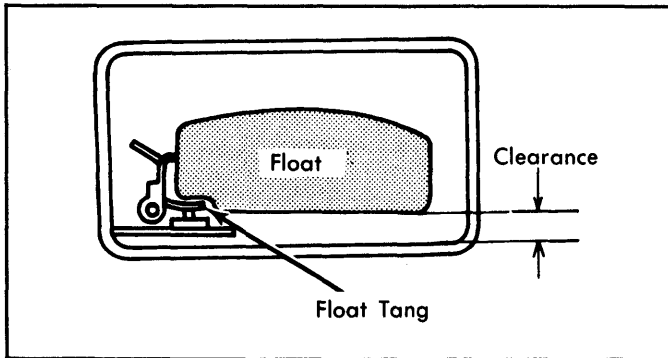

Fig. 4: Float Level Adjustment
2) Invert carburetor on stand and allow float to lower by its own weight. Measure clearance between float and carburetor body. See Fig. 4. Clearance should be .335" (8 mm). To adjust clearance, bend float tang until proper clearance is obtained.